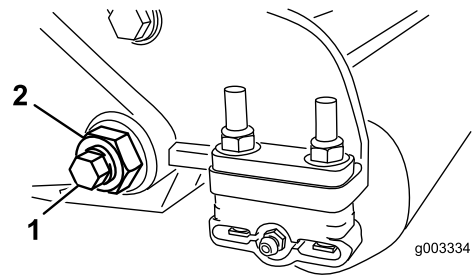
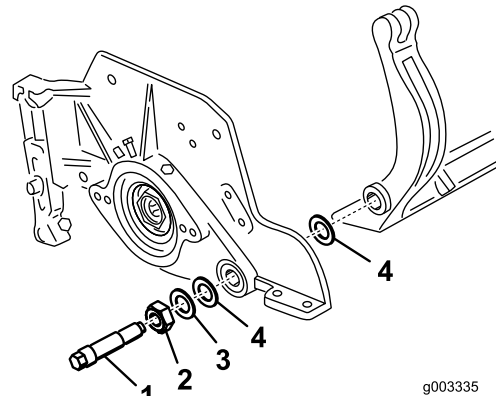

Figure 31
Figure 32
- On each side of the machine, loosen the locknut securing the bedbar bolt (Figure 31).
- Remove each bedbar bolt, allowing the bedbar to be pulled downward and removed from machine bolt (Figure 31). Account for 2 nylon washers and 1 stamped steel washer on each end of the bedbar (Figure 32).
4. Place a steel washer outside each of the nylon washers (Figure 32).